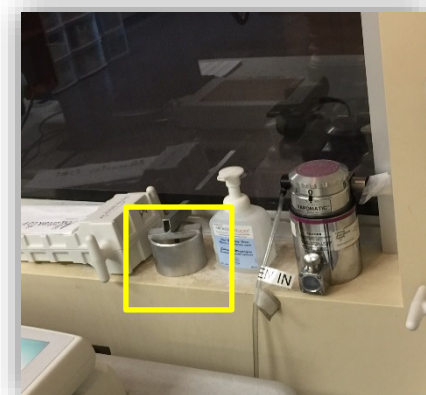

Figure 2.1 Emergency Release Tool
- The “Emergency Evacuation Release Tool” can be found on the windowsill in the console room as shown in Figure 2.1.